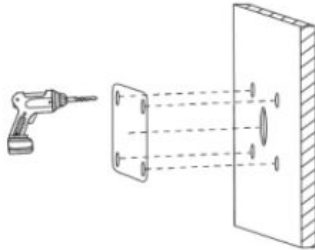

Figure 2-1
Step 1 Use the supplied position map and adhere it to the mounting surface. Drill the appropriate pilot holes for the mounting screws and cable exit if the cable will go through the mounting surface. See Figure 2-1.